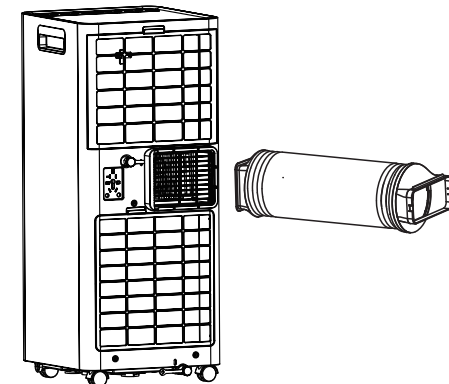

Figure. 8
- 10.) As shown in Figure 8, Insert the exhaust pipe assembly (the end of the exhaust joint) into the back-panel vent slot (push to the left) and complete the assembly.